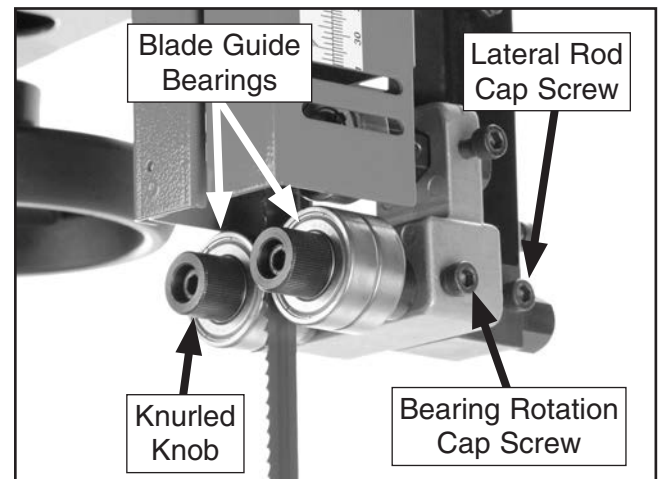

Figure 53. Blade guide controls.
- Familiarize yourself with the blade guide controls shown in **Figure 53**.